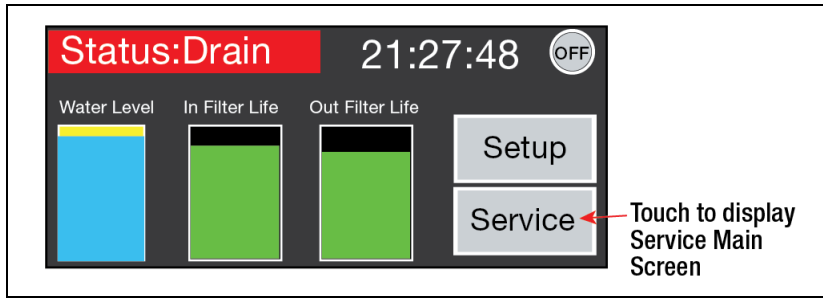

Figure 3.
- At the Fuel Conditioning Controller front panel, touch the Service button to open the Service Home screen (see Figure 3).